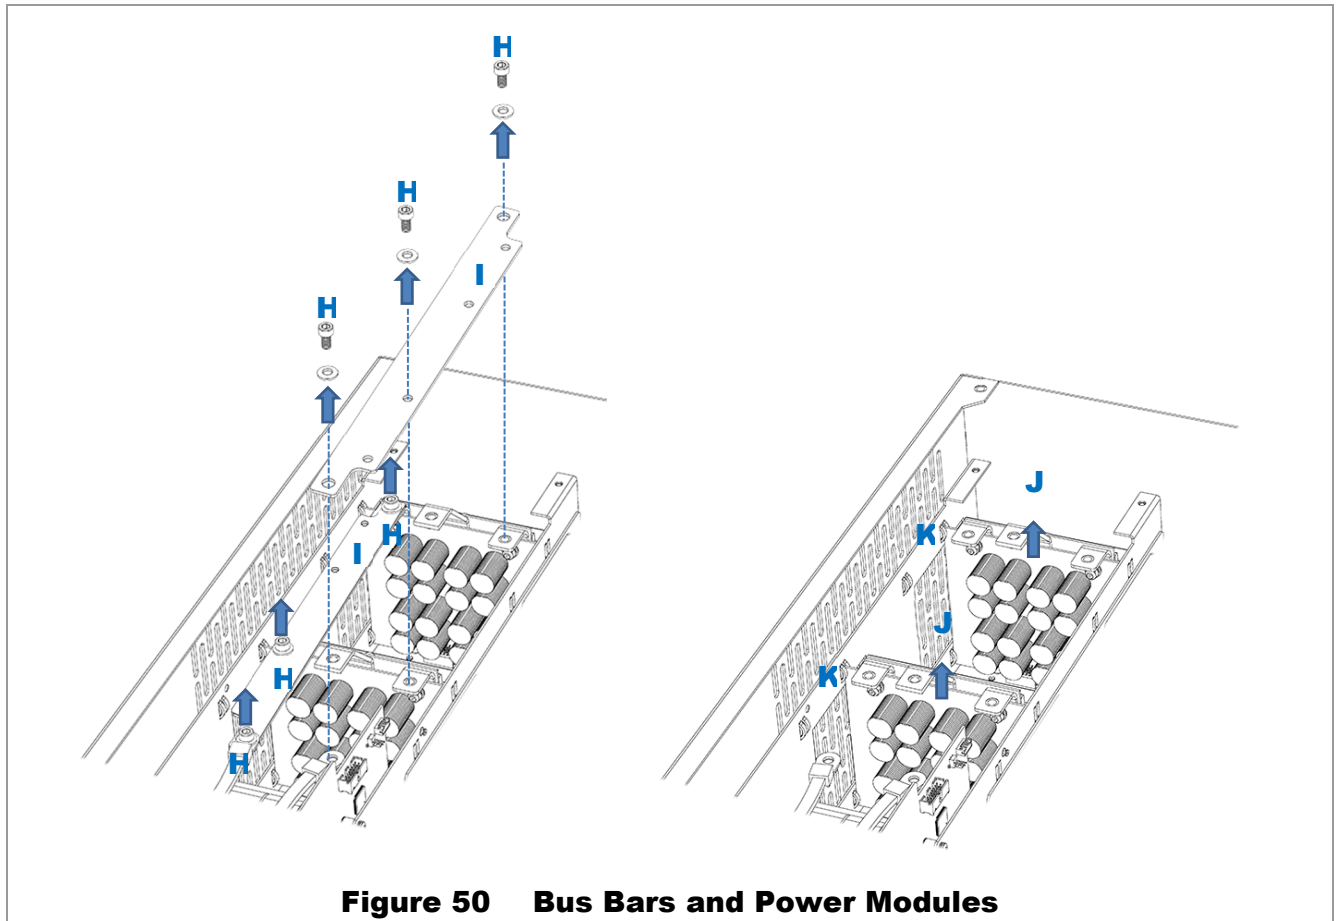

Figure 50 Bus Bars and Power Modules
6. Using a 5 mm hex (Allen) wrench, remove bolts for bus bars. See all items **H** in Figure 50. Remove the two bus bars **I**.
7. Remove the power module to be replaced. Pull upward to unsocket the module. See **J** in Figure 50.
- Insert the power module into its slot. Ensure that the new board is slotted into the card guides **K**. (See Figure 50.) Ensure it is seated firmly.
- Replace bus bars **I**. Replace bolts **H**. Tighten to a torque value of 60 in-lb (6.8 Nm). See Figure 50.